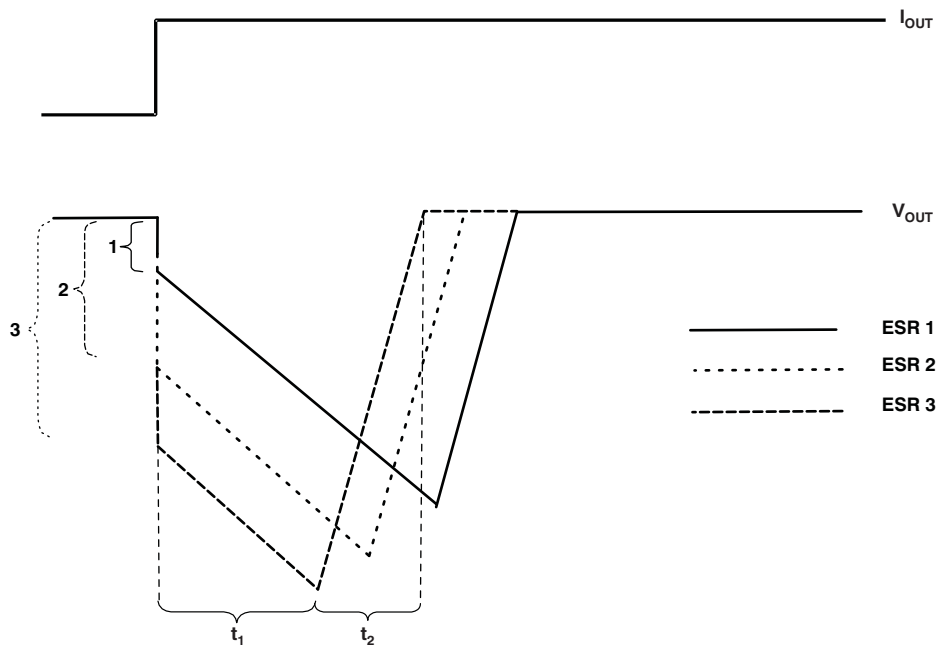

Figure 24. Correlation of Different ESRs and Their Influence to the Regulation of  $V_{OUT}$  at a Load Step From Low-to-High Output Current
- The LDO is not able to supply the sudden current need because of its response time ( $t_1$  in Figure 24). Therefore, capacitor  $C_{OUT}$  provides the current for the new load condition (the dashed arrow).  $C_{OUT}$  now acts like a battery with an internal resistance, ESR. Depending on the current demand at the output, a voltage drop occurs at  $R_{ESR}$ . This voltage is shown as  $V_{ESR}$  in Figure 23.
- When  $C_{OUT}$  is conducting current to the load, initial voltage at the load is  $V_{OUT} = V(C_{OUT}) - V_{ESR}$ . As a result of the discharge of  $C_{OUT}$ , the output voltage  $V_{OUT}$  drops continuously until the response time  $t_1$  of the LDO is reached and the LDO resumes supplying the load. From this point, the output voltage starts rising again until it reaches the regulated voltage. This period is shown as  $t_2$  in Figure 24.
Figure 24 also shows the impact of different ESRs on the output voltage. The left brackets show different levels of ESRs where number 1 displays the lowest and number 3 displays the highest ESR.